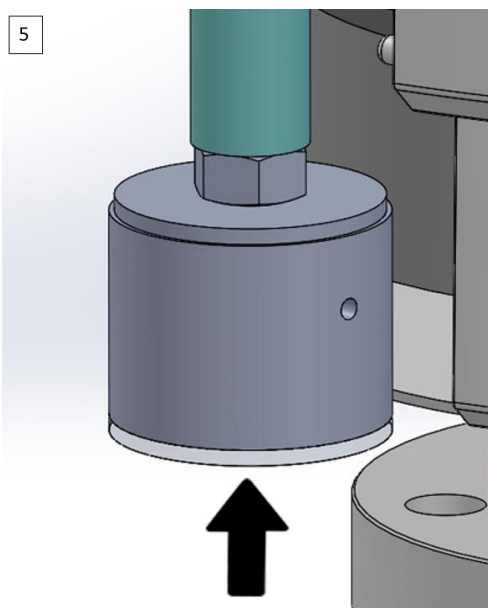

Fig.24 Adjusting the travel brake. Close the cover.
5. Replace the knob cover to close the system as shown in figure 24.